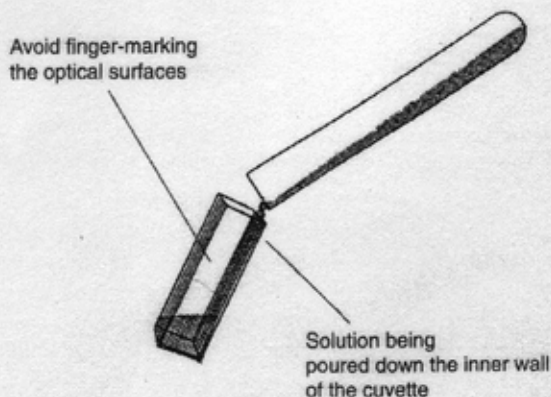

Fig. 4.21 How to transfer a solution from a tube to a cuvette, avoiding air bubbles.
*Important:* Do not finger mark the clear optical sides of the cuvette and avoid air bubbles forming when transferring the solution to the cuvette see Fig. 4.21. If reusing a plastic cuvette, make sure it is completely clean and its optical sides are scratch free.